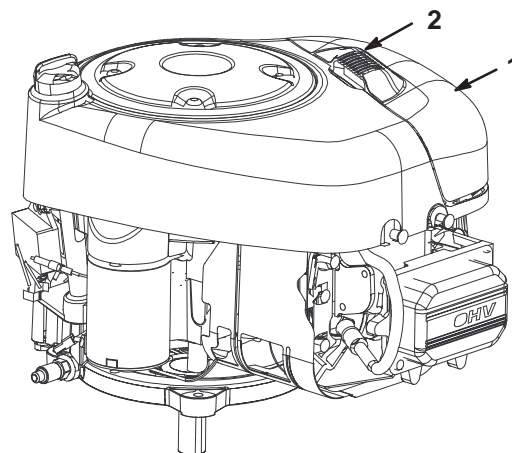

Figure 21
- Clean around the air cleaner to prevent dirt from getting into the engine and causing damage. Pull up on the air cleaner cover handle and rotate it toward the engine (Fig. 21). Remove the air cleaner cover.